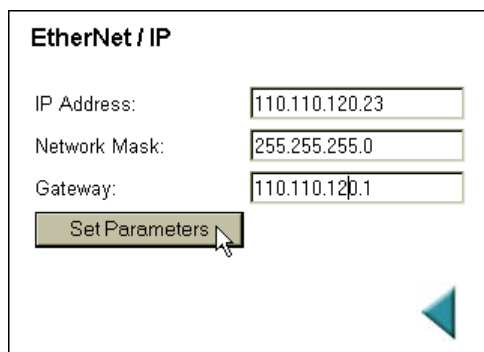

FIG. 72: ETHERNET/IP PAGE/SETTING IP ADDRESS
Step 4. Click on View EtherNet/IP configuration. (See Fig. 113) The EtherNet/IP page appears. (See Fig. 72)